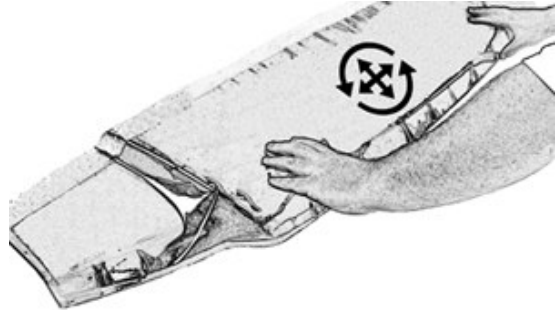

Figure 1A
7. Position the kit 1/16 inch from the front edge of the hood and centered between the fenders. The part may not seem to line up along the entire length of the front edge of the hood. This is normal since stretching may be needed to relieve excess material caused by the compound curves in the surface of the hood. Rotate the kit so that it lies symmetrically as shown in Figure 1A.